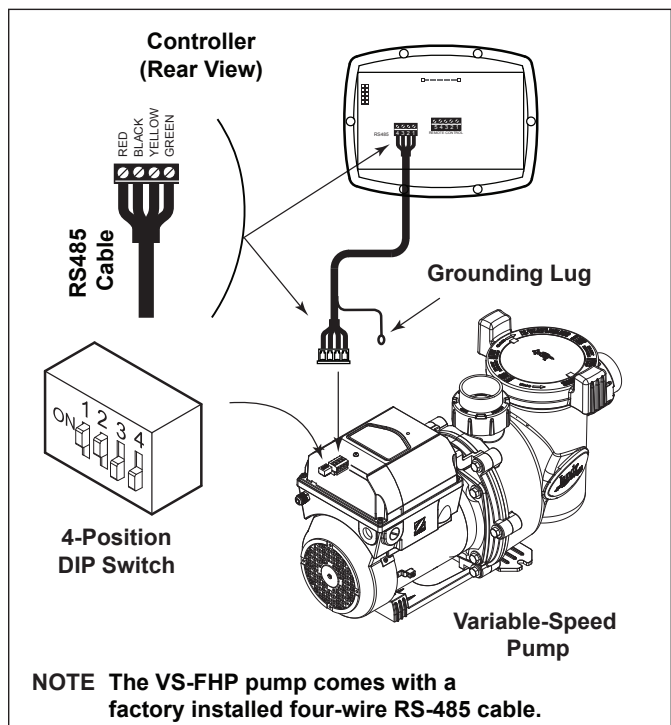

Figure 9. Wiring Variable-Speed Controller (JEP-R) to VS-FHP Pump
2. Slide dip switches 1 and 2 up, so they are in the ON position, and slide switches 3 and 4 down, so they are in the OFF position. See Figure 9.
As shown in Figures 9 and 10, the 4-position dip switch is located at the rear of the VS-FHP pump. This dip switch serves two (2) functions: it selects the pump address, and it determines what type of controller will be used with the pump. The tables below show the dip switch settings.